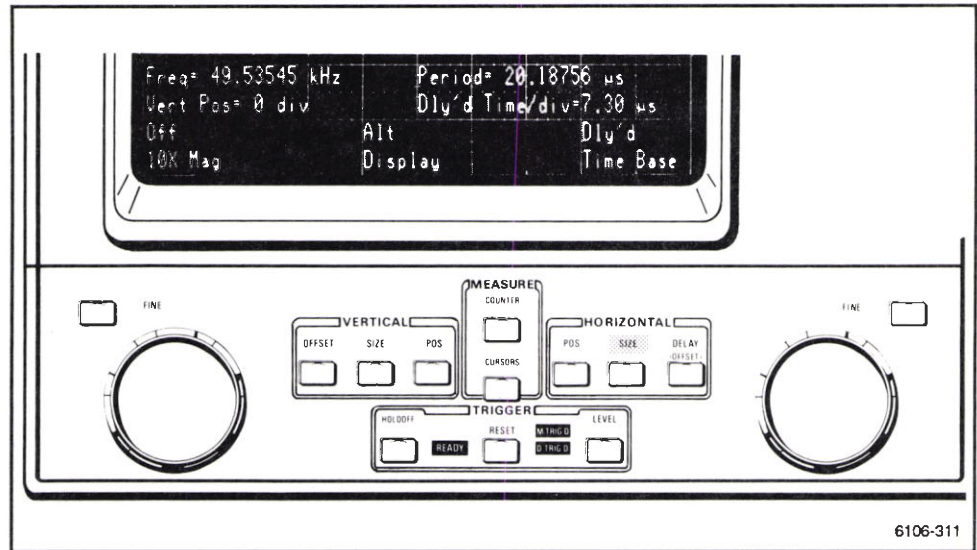

Figure 2-112. Adjusting Dly'd Time/div through HORIZONTAL SIZE menu.
- With the counter engaged, adjust the horizontal size of the delayed time base by pressing HORIZONTAL SIZE and touching the menu until it reads **Dly'd Time Base**. Turn the right knob until the Gate pulse width, which is displayed as Dly'd Time/div = nnn, falls within the desired measurement region. (See Fig. 2-112.)